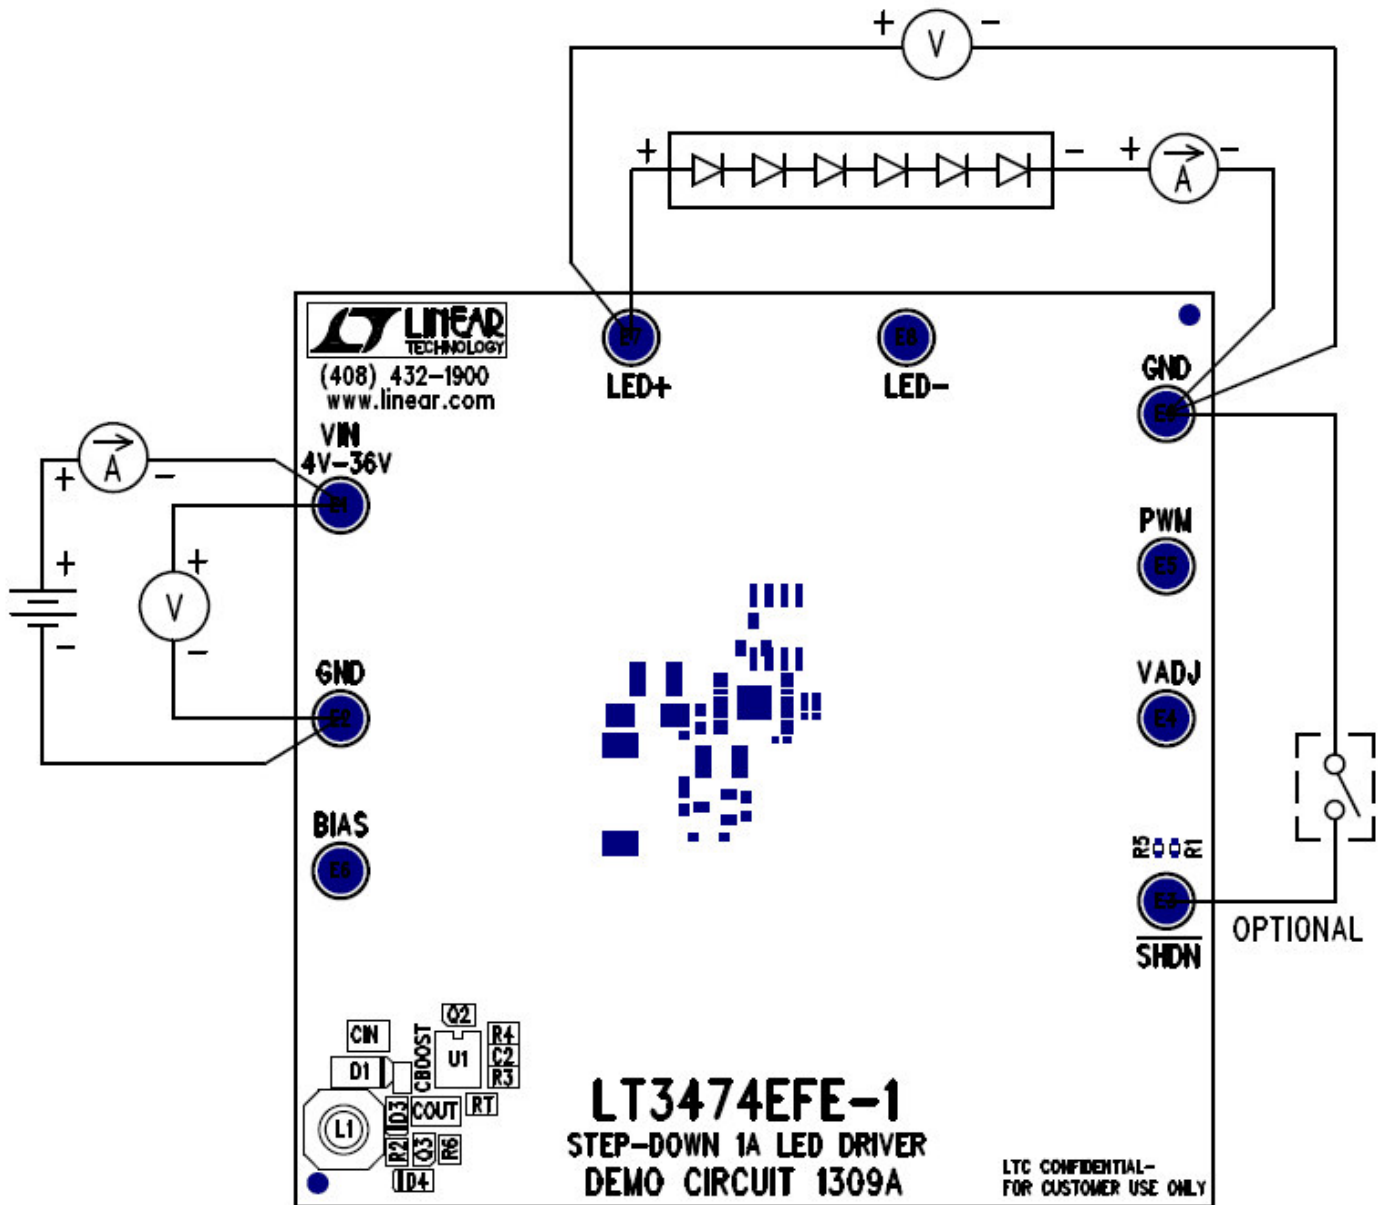

Figure 1. Proper Measurement Equipment Setup
DC1309 is easily set up for evaluating the LT3474-1 step-down 1A LED driver circuit. Follow the test procedure outlined below and see Figure1.
1. Setup DC1309 as shown in Figure 1 with hand-held multimeters, a high-voltage LED string, and a bench supply (power turned off) with voltage greater than the LED string and less than 36V.